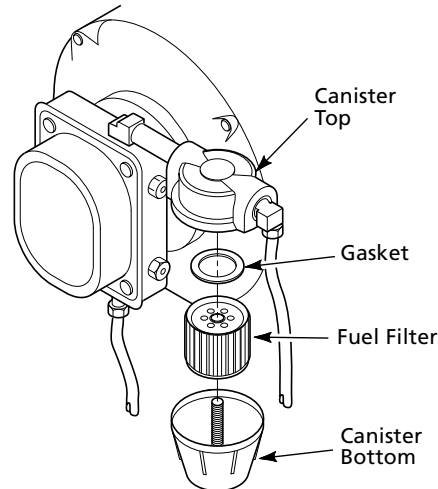

Figure 14 - Fuel Pump Filter and Canister
2. Remove fuel filter and gasket from canister bottom (See Figure 14).